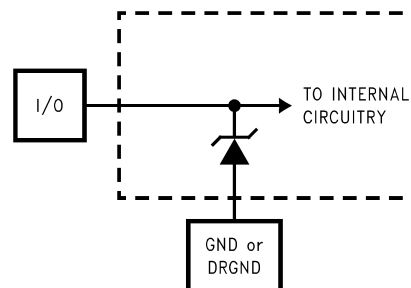

Figure 2.
- (1) The inputs are protected as shown below. Input voltages above  $V_A$  or below GND will not damage this device, provided current is limited per Note 4 under the Absolute Maximum Ratings Table. However, errors in the A/D conversion can occur if the input goes above  $V_A$  or below GND by more than 100 mV. As an example, if  $V_A$  is 3.3V, the full-scale input voltage must be  $\leq 3.4V$  to ensure accurate conversions. See Figure 2
- (2) To ensure accuracy, it is required that  $|V_A - V_D| \leq 100\text{ mV}$  and separate bypass capacitors are used at each power supply pin.
- (3) With the test condition for  $V_{REF} = +1.0V$  ( $2V_{P-P}$  differential input), the 12-bit LSB is 488  $\mu V$ .
- (4) Typical figures are at  $T_A = T_J = 25^\circ\text{C}$ , and represent most likely parametric norms. Test limits are specified to TI's AOQL (Average Outgoing Quality Level).
- (5) Integral Non Linearity is defined as the deviation of the analog value, expressed in LSBs, from the straight line that passes through positive and negative full-scale.
- (6) Optimum dynamic performance will be obtained by keeping the reference input in the 0.8V to 1.2V range. The LM4051CIM3-ADJ or the LM4051CIM3-1.2 bandgap voltage reference is recommended for this application.
- (2) To ensure accuracy, it is required that  $|V_A - V_D| \leq 100$  mV and separate bypass capacitors are used at each power supply pin.
- (3) With the test condition for  $V_{REF} = +1.0V$  (2VP-P differential input), the 12-bit LSB is 488  $\mu V$ .
- (4) Timing specifications are tested at TTL logic levels,  $V_{IL} = 0.4V$  for a falling edge and  $V_{IH} = 2.4V$  for a rising edge.
- (5) Typical figures are at  $T_A = T_J = 25^\circ C$ , and represent most likely parametric norms. Test limits are specified to TI's AOQL (Average Outgoing Quality Level).